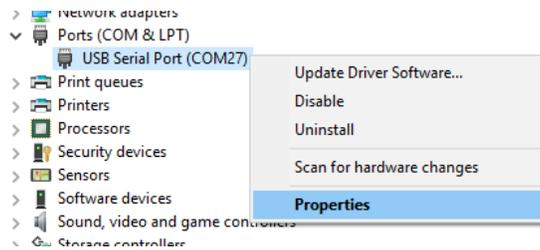
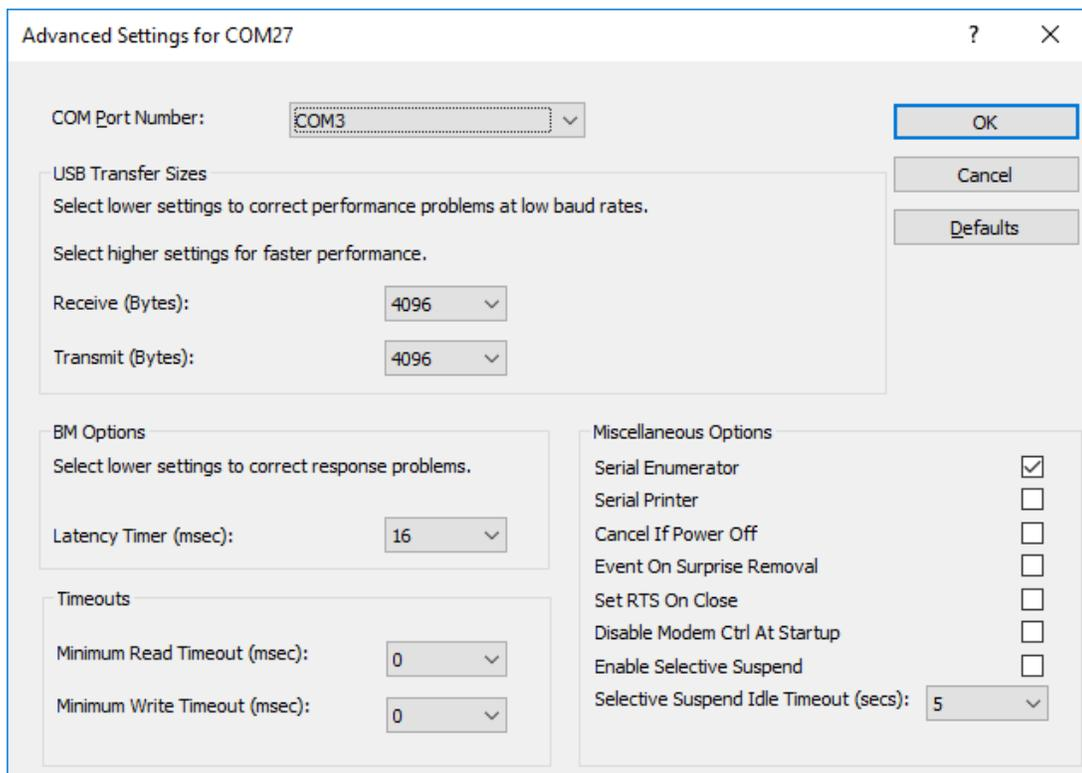

Figure 9.19: Right-click to choose **Properties**
Figure 9.20: Change the COM port to a lower number
- Current versions of DataRay software will scan the computer's COM ports for stages up to COM26. If Windows assigns a number higher than COM26 for the stage, then the DataRay software will not recognize the stage. This is a rare occurrence, but can sometimes happen with computers that have previously used many COM accessories. To fix the issue, open the Device Manager in Windows. Click on the dropdown arrow next to Ports for a list of the currently attached COM Ports. If there are several COM ports recognized, then unplug the stage to identify which port disappears; reattach the stage and the port will reappear. If the COM port number is above COM26, right-click on it and choose Properties as shown in Figure 9.19. Go to the Port Settings tab and click the Advanced... button. Change the COM Port Number to a lower port number as shown in Figure 9.20, then press OK to close each dialog. Start the DataRay software, which should now be able to recognize the stage.